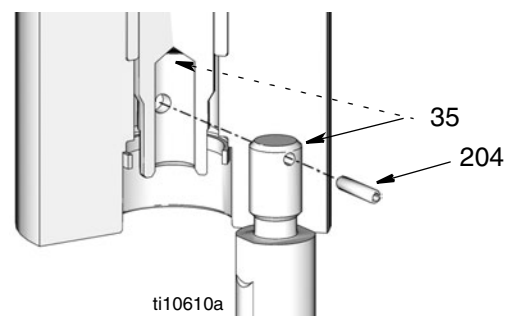

FIG. 12
23. To reconnect reciprocator and pump, install o-ring (17). Screw connecting rod (35) into displacement rod (34). Install cotter pin (204). Install a new gasket (202*). Push cylinder up into adapter and engage the threads. Screw in pump using a strap wrench for the final tightening (See FIG. 12 and Pump Parts, page 20).